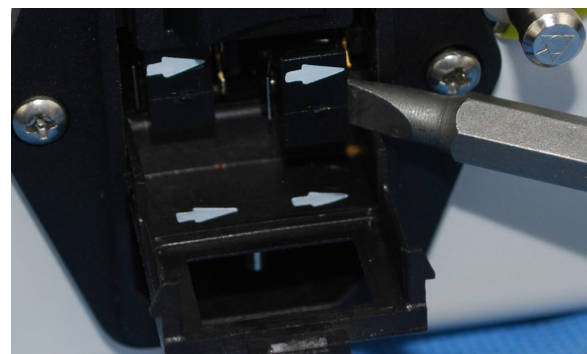

Figure 91 - Step 3 Note direction arrows
3. Note that the direction arrows on the access door match the arrows on the slide out fuse holders (Figure 91).